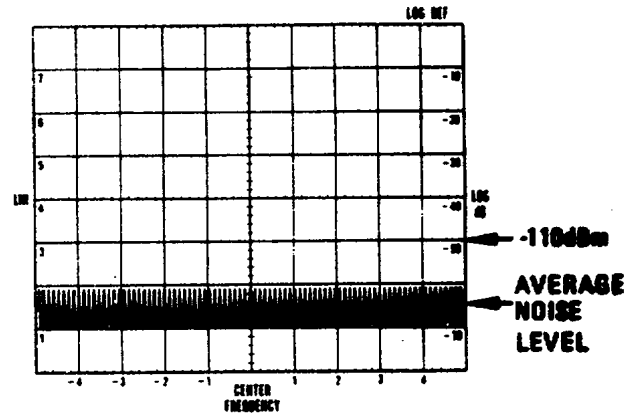

Figure 4-13. Residual Response Test
3. Observe the display as the analyzer scans from 60 to 110 MHz. The average noise level should be less than -110 dBm and no residual responses should occur. Figure 4-13 represents a scan with no residual response, and with the average noise level indicated.
4. Set FREQUENCY to 35 MHz and observe the display as the analyzer scans from 10 to 60 MHz. The average noise level should be less than -110 dBm and no residual responses occur. Figure 4-13. Residual Response Tat should occur.